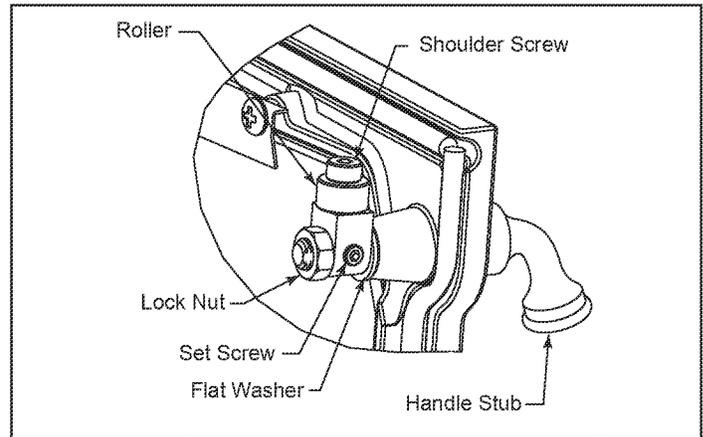

Figure 2.13 - Rotate pawl and/or remove flat washer to adjust latch.
1. Remove and retain the lock nut with a 9/16" wrench. (Figure 2.13)
3. Rotate the pawl 180°. Replace the lock nut. Tighten the set screw. Figure 2.13.